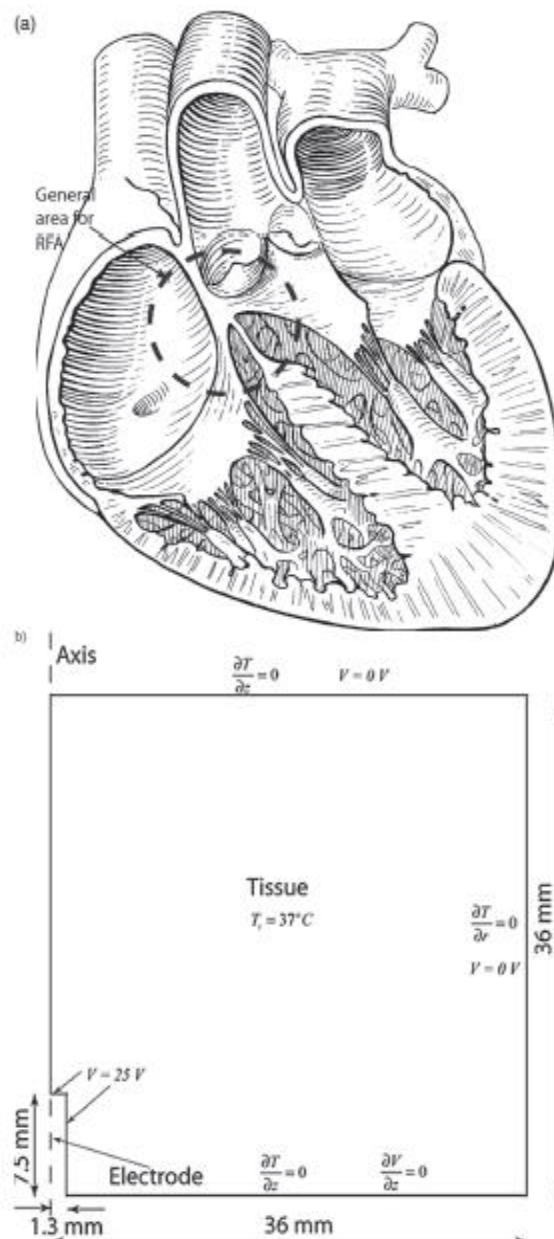

Figure 6.14
A cylindrical electrode is introduced into the middle of the tissue where RF ablation is needed. The problem is therefore axisymmetric and the schematic is shown in Figure 6.14. The properties of the tissue are homogenous. The tissue is heated by resistive heating due to Joule heat generation as there is a potential difference between the electrode tip and the outer edge of the tissue. The optimal goal of RF ablation is to increase the temperature of the tissue from 37 °C to more than 50 °C, when the desired myocardial injury takes place (Tungjitkusolmun *et al.*, 2000). However, the temperatures in the tissue should be kept below 100 °C to avoid unwanted phenomena such as boiling, charring etc.
**Boundary conditions** The boundary conditions and the schematic used for the model in COMSOL are shown in Figure 6.14. The geometry is modeled as axisymmetric as discussed earlier. The tissue is at a constant initial temperature of 37 °C. The electrode is not included in the geometry for simplicity and the electric potential to the surface of the electrode is implemented as a boundary condition. The heat fluxes at all surfaces are zero as the left surface is the axis and the other surfaces are assumed to be at a very far distance.